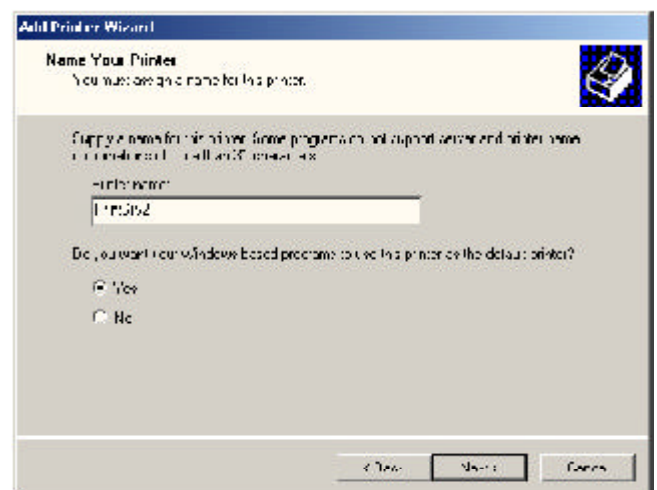

Fig. 4.7
Step 13 Type in a name for your printer and click **Next**. For Windows 2000, select if you want to set this printer as the default printer. See *Fig. 4.7*